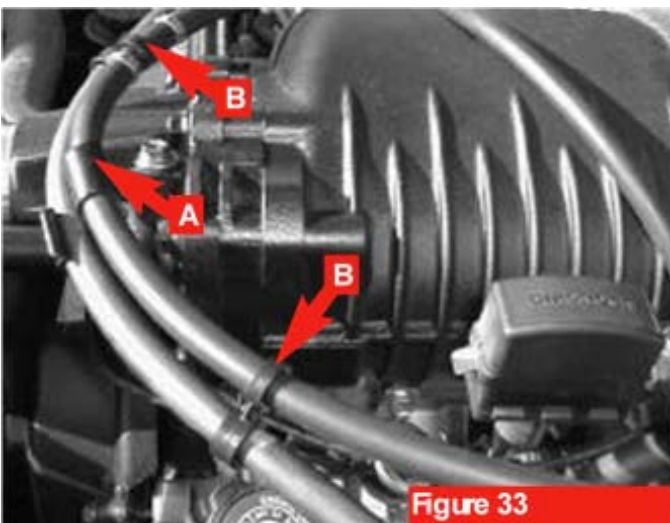

Figure 33
8. Remove the throttle cable/evaporative canister hose bracket and bolt from the stock manifold. Install the bracket on to the supercharger as shown (see arrow A, figure 33). Insert the throttle cable and evaporative canister hose, and install the Zip Ties on the throttle cable and evaporative canister hoses as shown (see arrows B, figure 33).